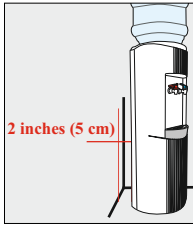

Figure 1
1. Place the water cooler on a flat level surface in a cool shaded location near a grounded wall outlet. Position water dispenser so that the back of the unit is a minimum of 2 inches / 5cm away from the wall to ensure proper ventilation.(Figure 1)